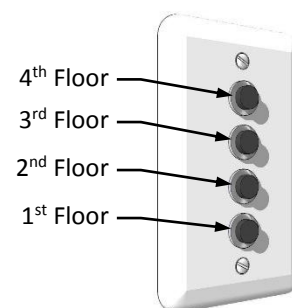

Figure 3
- 1 Press the call/send button that corresponds with the floor you are standing on to call the dumbwaiter car to you. (see Figure 3)